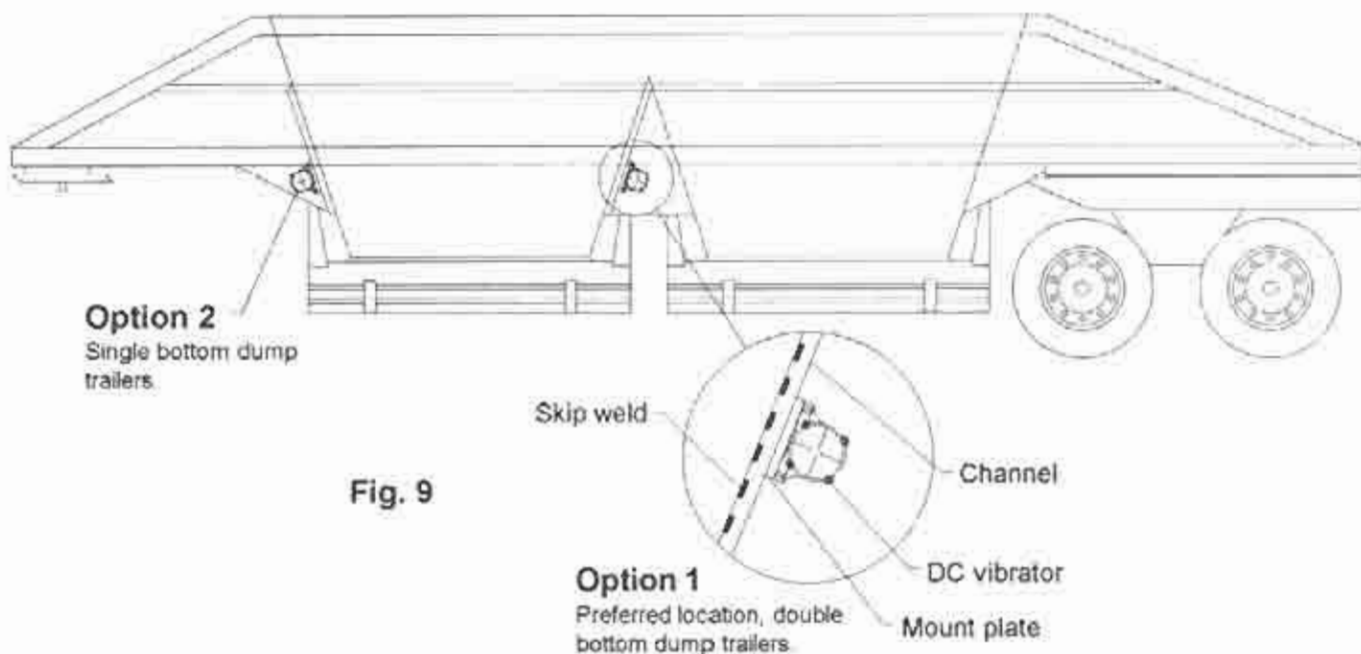

Fig. 9
1. Position channel as close to outlet as possible without interfering with operation of gate. For double bottom dump trailers, extend up to contact adjacent hopper. If adequate clearance is not available use Option 2 (see Fig. 9). (Use 8" x 6.4 lb./ft. aluminum channel on aluminum trailers or C8x8.2 lb./ft. on steel trailers.)
4. Skip weld steel mount plate to channel with E70S-3 mig wire or low hydrogen rod, aluminum plate with 5356 aluminum mig wire as shown in Fig. 9.